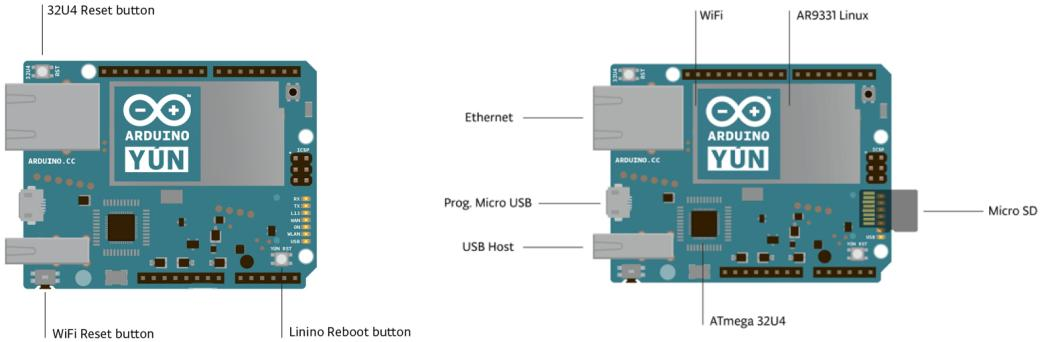

Figure 7: Arduino Yun button locations and overview schematic.
3. Look for the Yun's wifi network. If it doesn't appear, hold the wlan reset button until it blinks. See Fig. 7 for reset button locations. Pressing all three buttons for several seconds will reset the Yun to factory defaults.